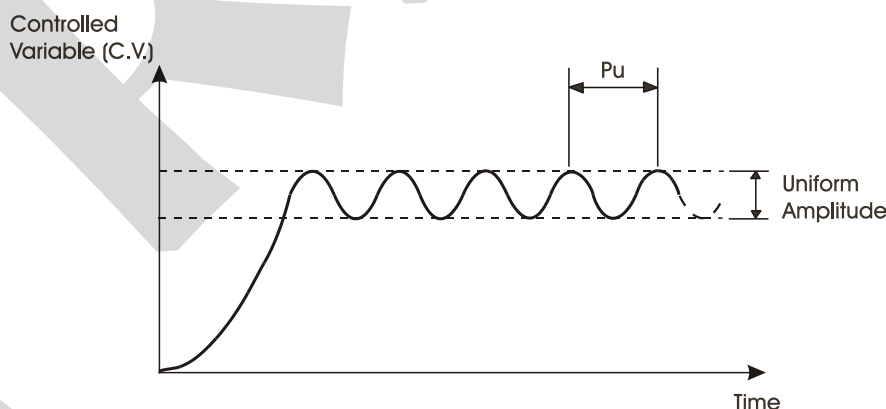

Fig. 30 - Steady state oscillation
- Adjust the gain value (PROP), also called sensitivity, until reaching a limit value in which the controlled variable will show a uniform oscillation, i.e., with constant amplitudes (see figure 30). Values above that limit produce amplifying oscillations, whereas gain values below that limit will dampen those oscillations. By ultimate sensitivity (K_u) it is meant that limit gain and by ultimate period (P_u) it is meant the period of constant oscillation caused by this sensitivity.